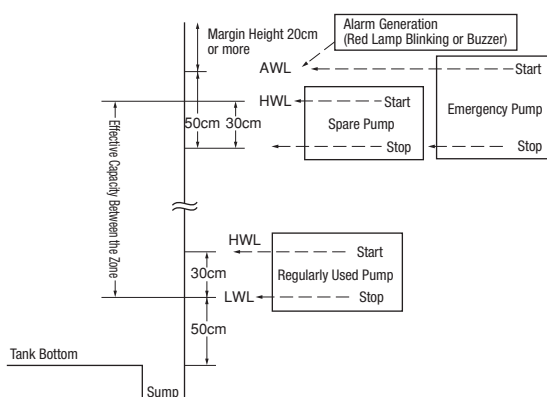

Figure 3 Each pump's start/stop position
(C) Each pump's start/stop position (water level) is shown in **Figure 3**.